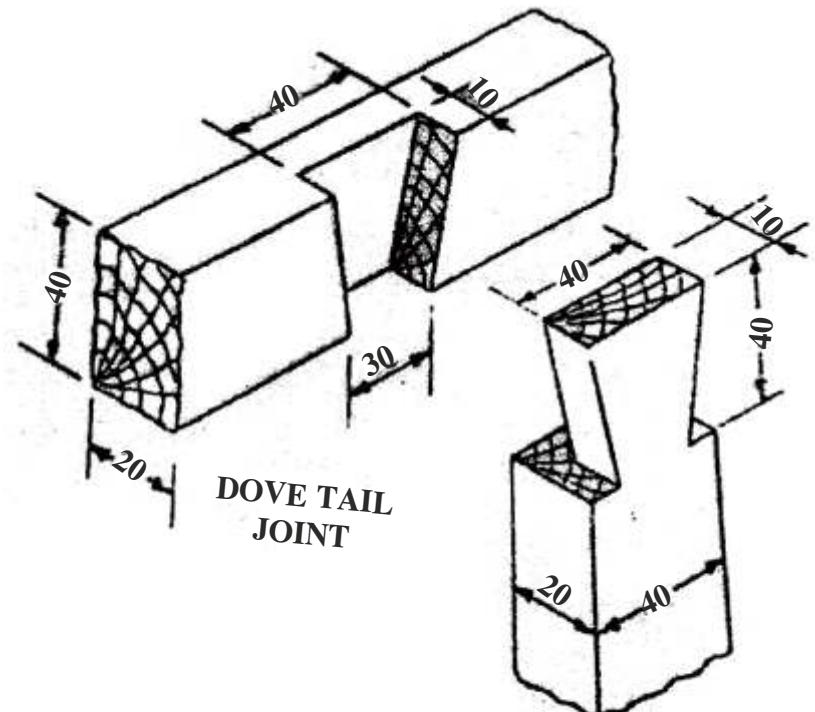

Fig. 1
Q.25 Detail drawing of dovetail bridle joint is shown in figure 1. Draw the following assemble views: